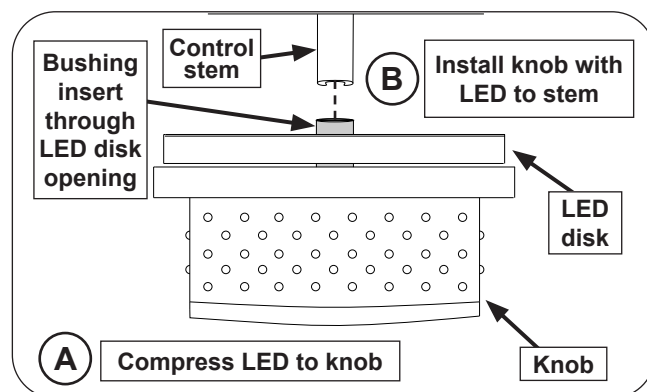

Fig. 2-4 Control knob and LED disk detail
13. Take the LED disk and align the center hole over the new control knob bushing insert as shown in Fig. 2-4, A. While holding both pieces together, carefully install the knob/LED disk onto the thermostat control stem. See Fig. 2-4, B.